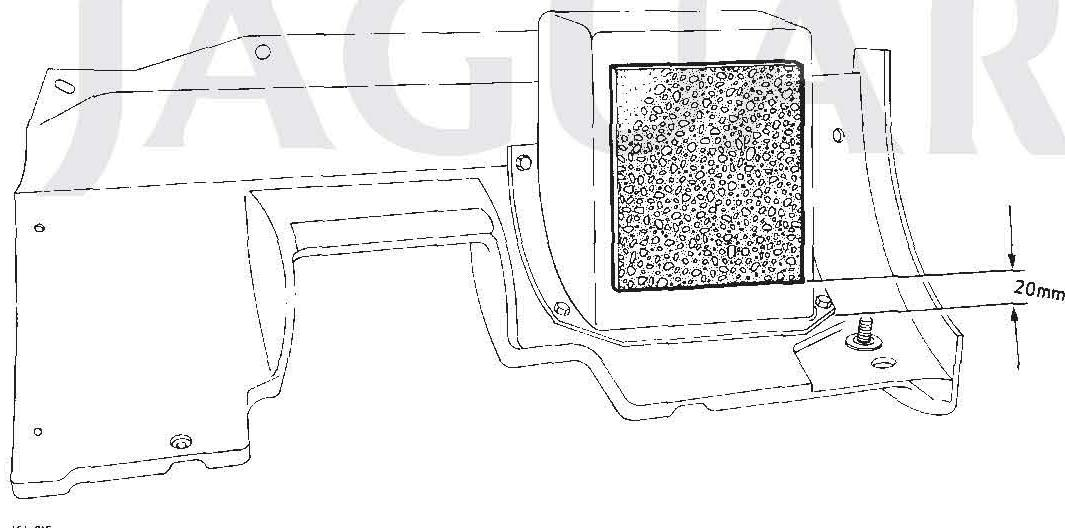

Fig 10
To prevent harness connectors rattling against the above component. An anti-rattle pad was introduced on all models from VIN 526250. The location of this pad is shown in (Fig 10).
- 2 Apply self adhesive anti-rattle foam pad Part No BDC 6348 to the coin box at the position indicated in (Fig 10).